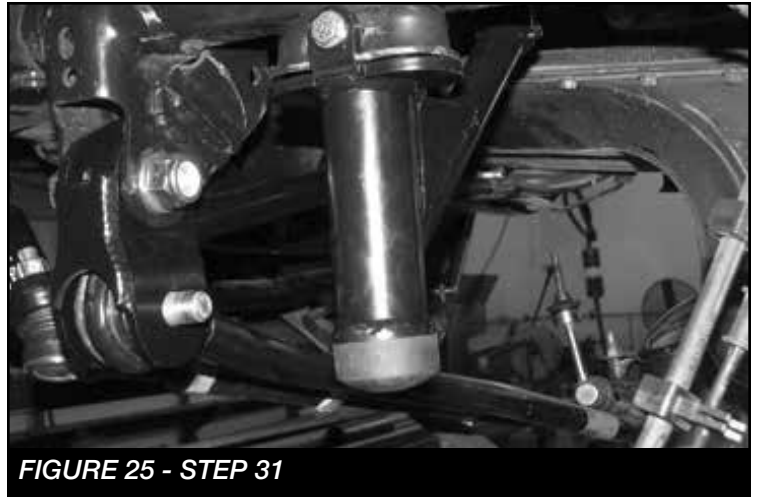

FIGURE 25 - STEP 31
31. Locate the FTS88 bump stop pad and thread it into the bottom of the Fabtech bump stop. **SEE FIGURE 25**